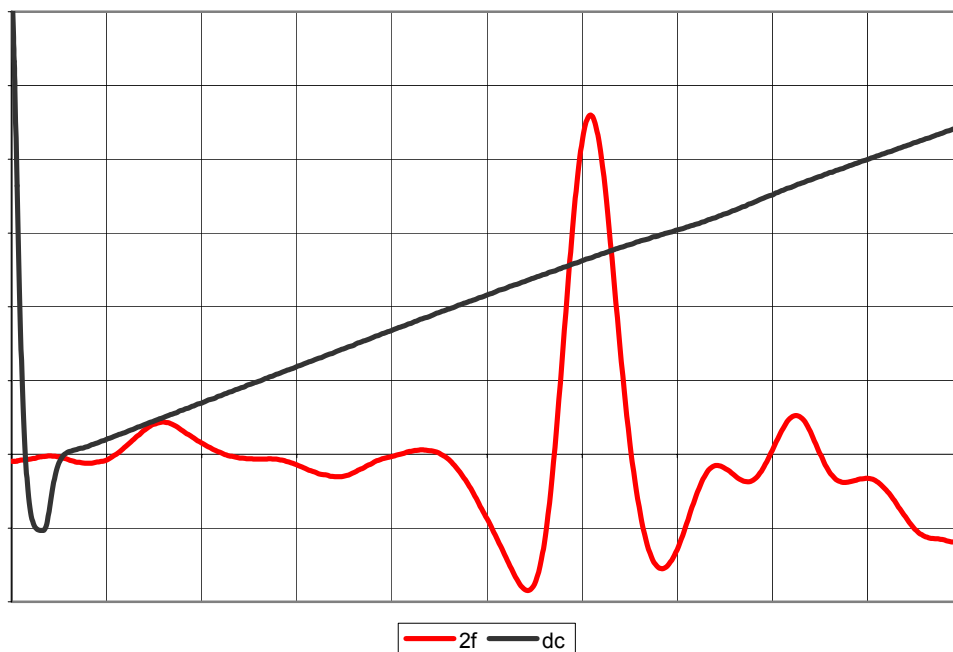

Figure 12: Mode 6 data dump displayed in graphical format using Excel
6. Choose the **X-Y (scatter)** chart type and click **Finish**. A graph of the spectrum displays. If the lower-red curve is very flat, double click on it, select the **Axis** tab, and select **Plot series on Secondary Axis** (see Figure 12).